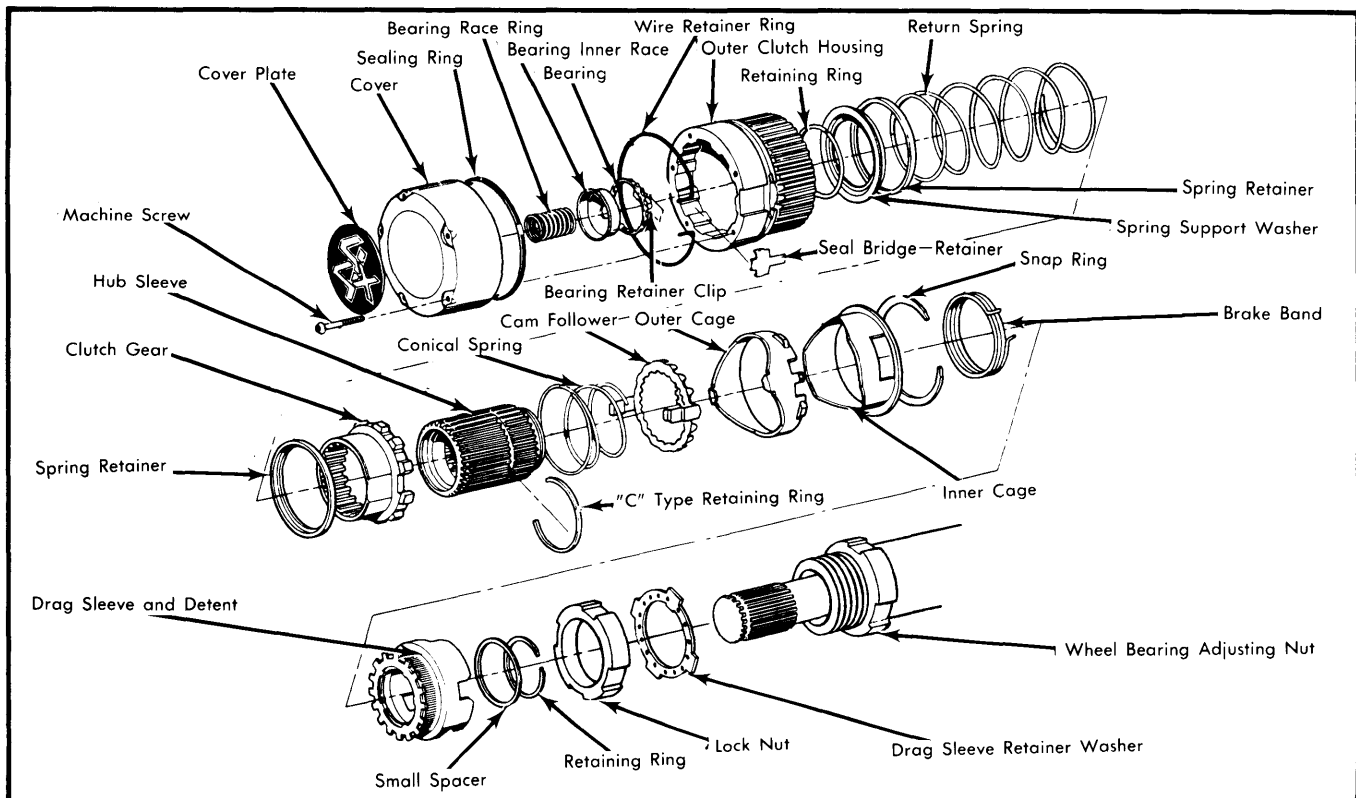

Fig. 1 Automatic Locking Hubs (Chevrolet, GMC & Chrysler Corp.)
2) Squeeze the tangs of the wire retaining ring together with needle nose pliers and pull the remaining components of the automatic hub from the wheel. See Fig. 1.